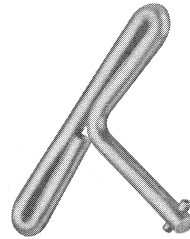

Fig. 12—719A Tool
2.22 A 719A tool (Fig. 12) is required to release or engage the locking mechanism on both of the 1- and 2-type coin telephone sets and 235/1235-type coin collectors.